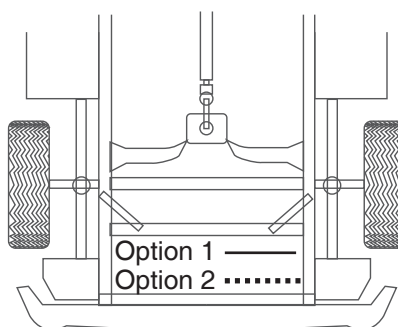

fig. 11
6. Route the air line along the frame to the air fitting on the air spring (fig. 11). Keep AT LEAST 6" of clearance between the air line and heat sources, such as the exhaust pipes, muffler, or catalytic converter. Avoid sharp bends and edges. Use the plastic tie straps to secure the air line to fixed, non-moving points along the chassis. Be sure that the tie straps are tight, but do not pinch the air line. Leave at least 2" of slack to allow for any movement that might pull on the air line (fig. 11).